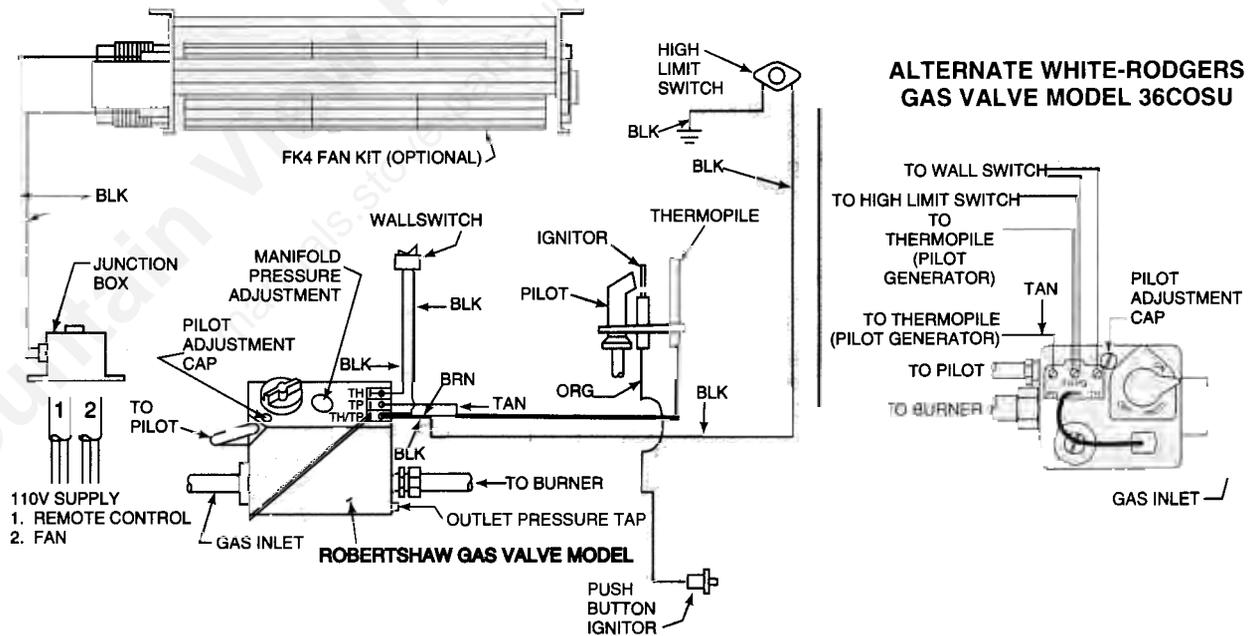

Figure 20
Wiring located for the the wall switch will be found protruding from the left side of the fireplace. Run the wire to the junction box, connect to a wall switch and mount inside the junction box. A wiring diagram is shown in Figure 20.
2. Optional Accessories Requirements. Optional accessories may be added now or at a later date, however, wiring should be done now to avoid significant wall reconstruction later if accessories are added. Two black wires are for the optional 110 volt switched fan. The optional fan kit (FK4) requires a 110VAC supply to the appliance junction box for operation. In line with this junction box, you must have an on/off switch or a BC10. No additional 110VAC supply is required for the fan motor speed control (BC10). One black wire and the one white wire are for the optional 110 volt switched remote control. The remote control (RC4) requires a separate 110VAC supply directly to the appliance junction box, as shown in Figure 20, #2. Wiring diagrams are provided with all accessories.